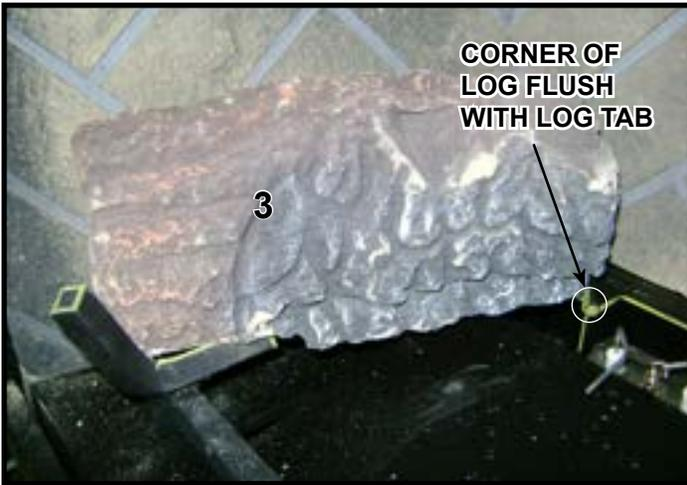

Figure 5. Place Log #3
**Log #3 (SRV2206-702):** Position Log #3 as shown in Figure 5. Position the grate tine groove, located on the bottom of the log, over the base of the left grate tine. Pull the log forward. The back end of Log #3 rests on the log support. Bend the tab located to the left of the pilot assembly into the vertical position. Rotate the end of Log #3 clockwise until the bottom right corner contacts the log tab.